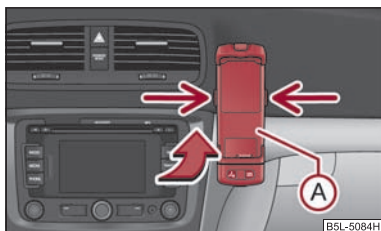

Fig. 123 Universal preparation for the mobile phone
- First of all push the adapter **A** in the direction of arrow ⇒ fig. 123 up to the stop into the mount. Press the adapter slightly downwards, until it locks securely into position.
- Press simultaneously the side locks of the mount ⇒ fig. 123 and remove the mobile phone and adapter .